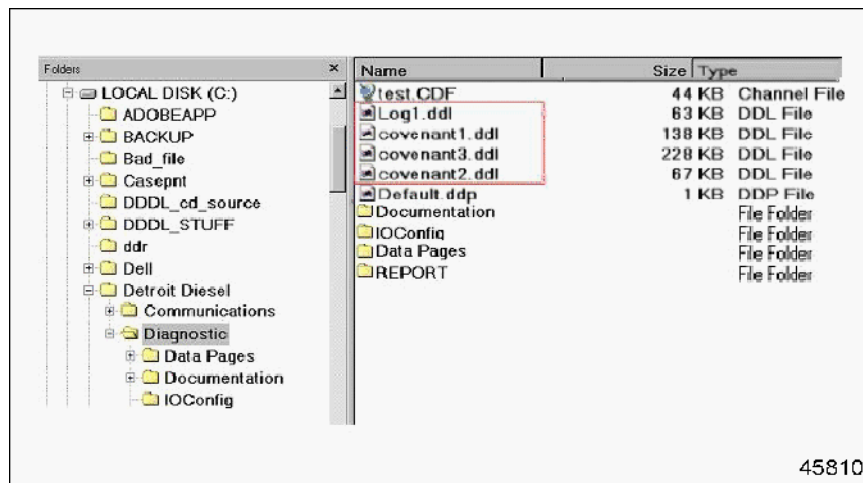

Figure 6-16 Location the Snapshot Files in the *Diagnostic* Folder
4. Click on the + sign in front of *Detroit Diesel*. Two more folders appear. Click twice on the *Diagnostic* folder. This folder is the default location of all the snapshot files for *Diagnostic Link*. See Figure 6-16.